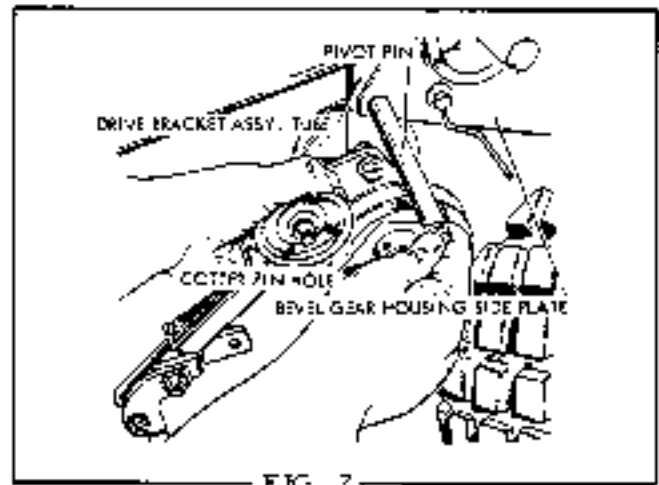
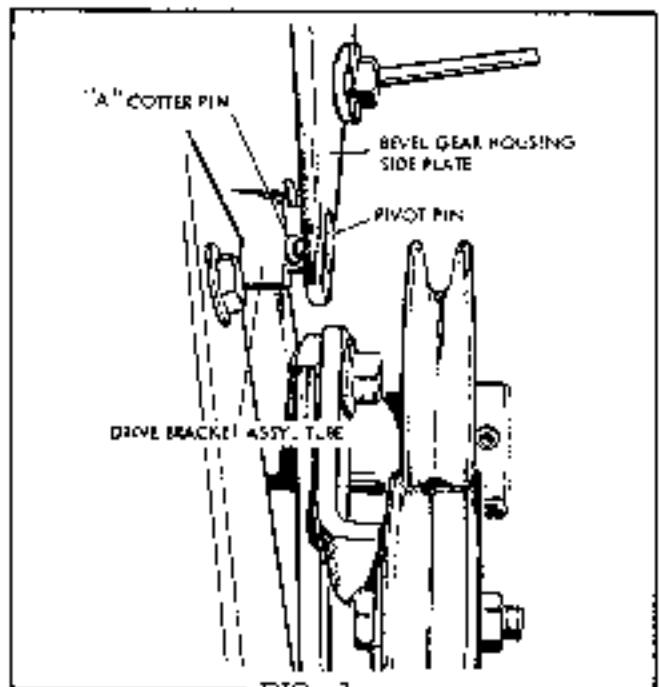

FIG. 2
FIG. 3
3. Holding the P.T.O. assembly in L.H. (Fig. 2) position the tube of the drive bracket assembly between the bevel gear housing side plates. Align the holes in the side plates with the hole in drive bracket assembly tube and insert pivot pin through holes in side plates and drive bracket assembly tube, so the cotter key hole in pin lines up at "A". (Fig. 3)
6. Attach the belt guard to the guard support as shown in Fig. 3. Allow approximately  $3/16$ " clearance between belt and guard.